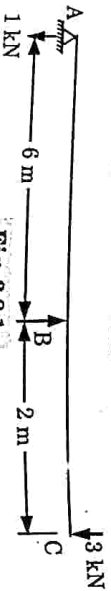

Fig. 3.8.1.
**Que 3.8.** Determine the vertical deflection at the free end and rotation at A in the overhanging beam shown in Fig. 3.8.1. Assume constant EI. Use Castigliano's method.